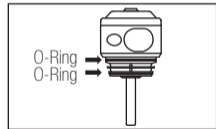

Fig. 10
- Check that the O-Rings are placed correct position and then install the cartridge.(Fig.10)
When water is found in the exhaust air or water leak from the coupled point, replace four O-rings as shown in Fig.10.